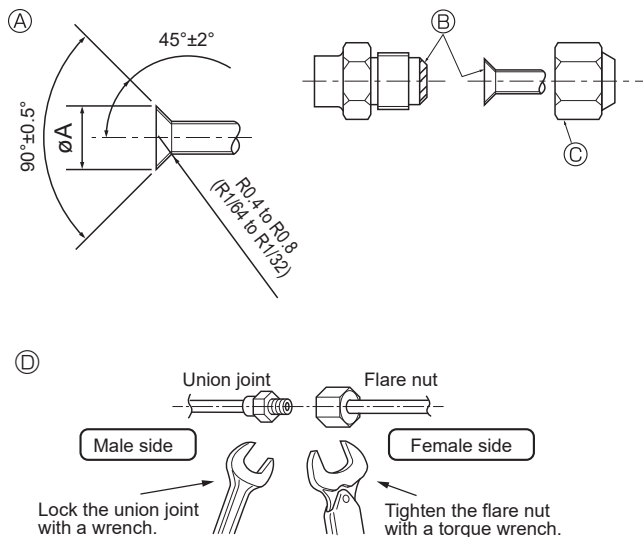

Fig. 4-1
4.2. Connecting pipes (Fig. 4-1)
- Flare the ends of the refrigerant pipes. (A)
- Apply refrigerating machine oil over the entire flare seat surface. (B)
- Use the flare nuts as follows. (C)
- Use 2 wrenches to tighten piping connections. (D)